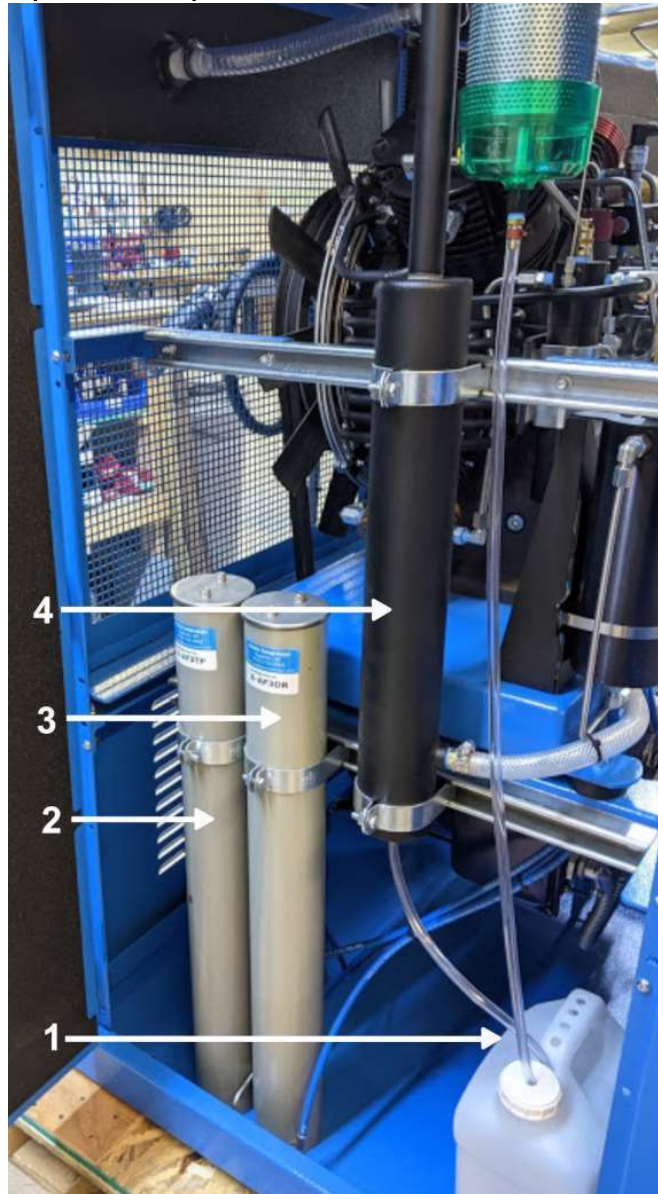

Figure 3.4
Table 3.4: Cabinet Components Identification for Figure 3.4
- Check the level of water in the Auto Drain condensate jug. Empty if necessary. (Fig 3.4)